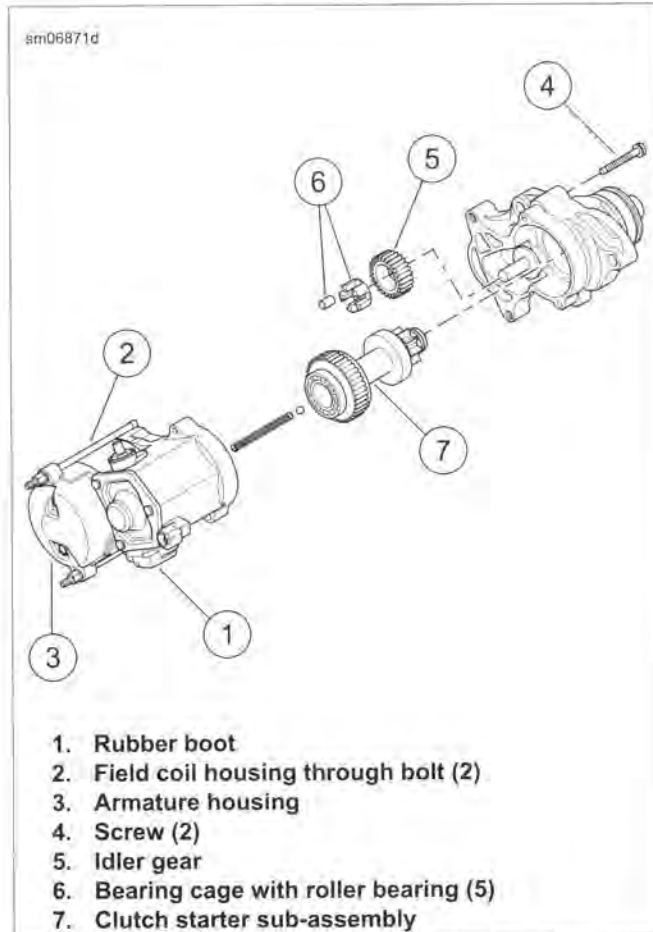

Figure 7-21. Clutch Starter Sub-assembly and Housing
3. See Figure 7-21. Pull up rubber boot (1). Remove hex nut with captive lockwasher. Release field wire from terminal post on solenoid housing.
4. Loosen field coil housing through bolts (2) to release field coil housing from solenoid housing.
2. See Figure 7-21. Verify that the idler gear (5) rotates freely without drag or sticking.
4. Inspect roller bearings (6). Bearings must rotate freely without drag or sticking. Replace starter motor if the bearings are pitted or grooved.
1. See Figure 7-21. Assemble starter.
- b. Install bearing cage with five roller bearings (6) onto shaft in drive housing.
- c. Confirm that all five roller bearings are installed in grooves of bearing cage. Install idler gear (5) over bearing cage.
2. Lubricate bearings with LUBRIPLATE 110 before installation. Install **new** clutch starter sub-assembly (7) in drive housing seating the larger bearing in the counterbore.
7. Secure field wire ring terminal to short post on solenoid housing with hex nut with captive lockwasher. Tighten to 70-90 **in-lbs** (7.9-10.2 Nm). Cover field wire ring terminal with rubber boot (1).